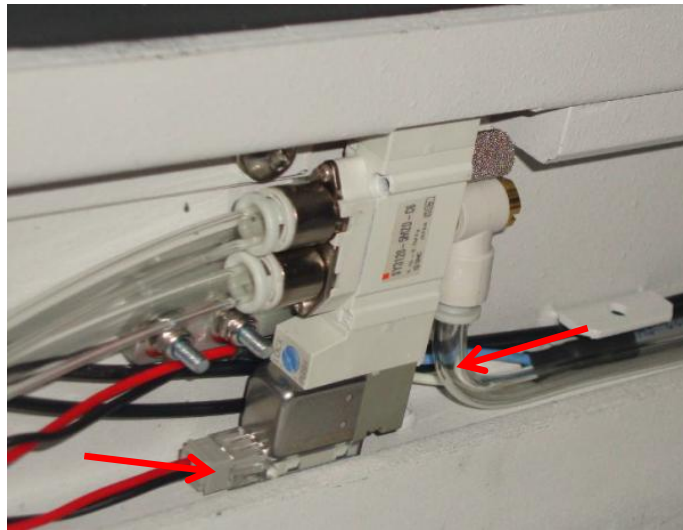

Figure 5
7. Remove 1 x Tubing from XXL Outer Barrier Solenoid (Inlet Port) as below Figure 5. Remove Input Cable as well.